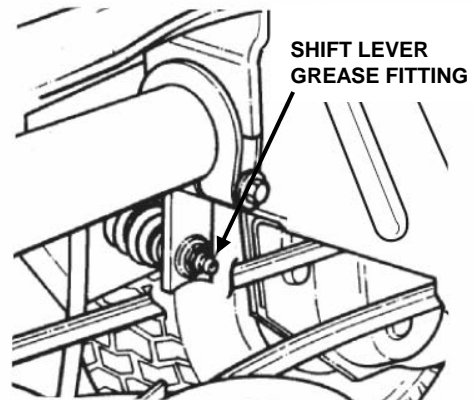

FIGURE 3.7a
1. Lubricate shift lever fitting with two shots of general purpose grease from grease gun. See Figure 3.7a.